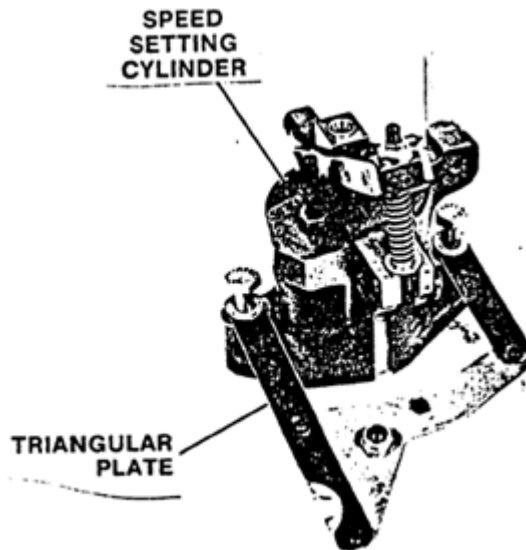

Figure 5-8. Speed Setting Cylinder and Triangular Plate
- c. Lift off speed-setting (Figure 5-8).